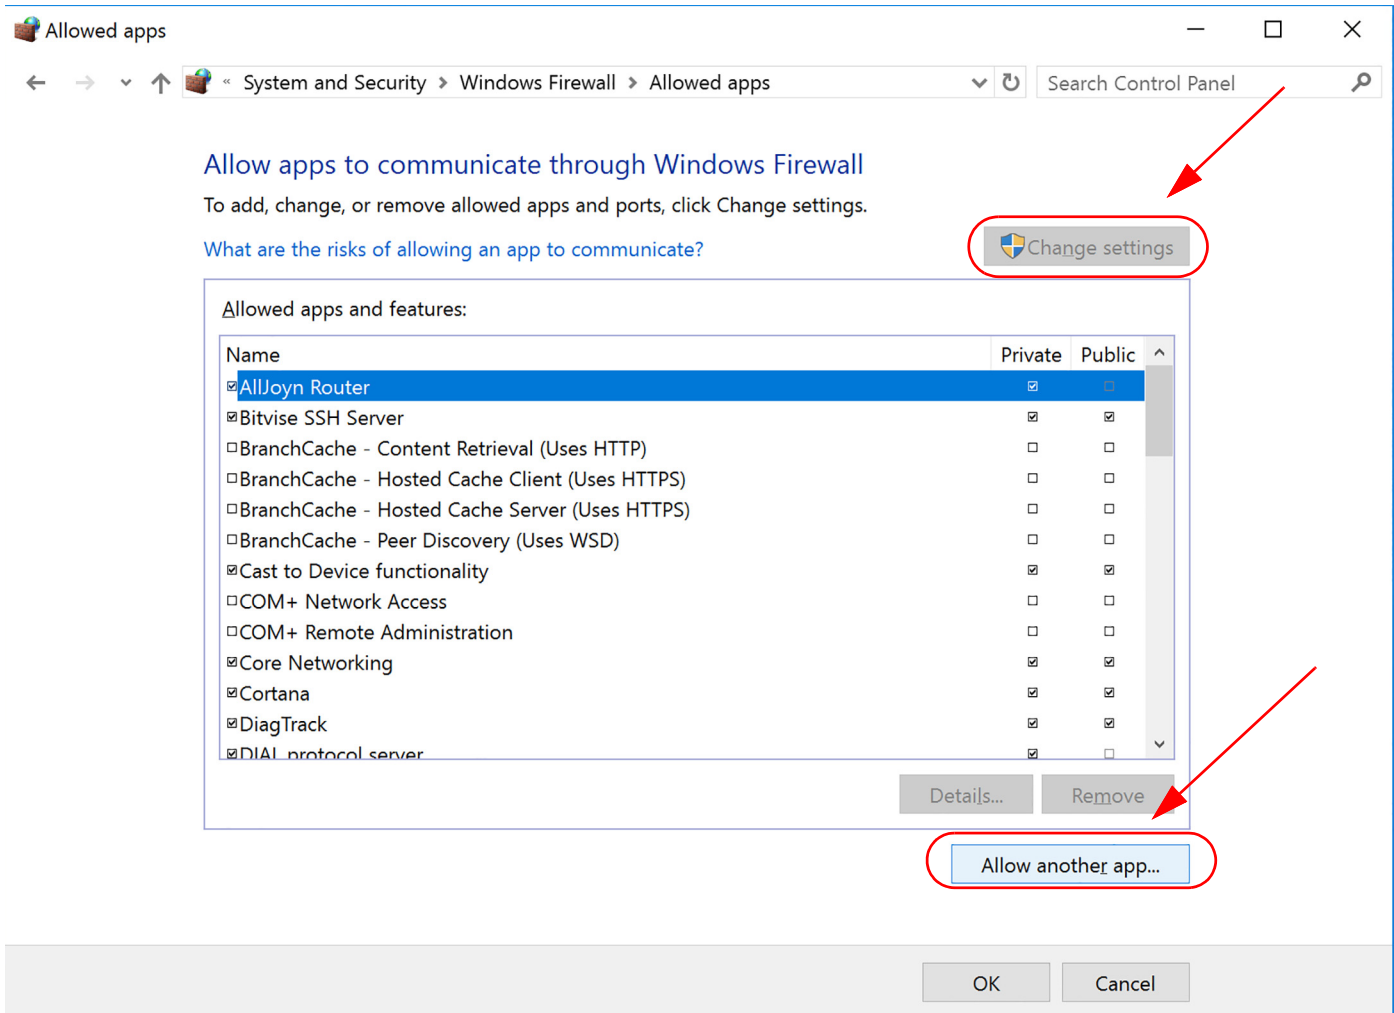

Figure 2.4: Windows Server 2016/2019: Change Settings -> Allowed Another app
- From the Windows Firewall screen -> Allow apps to communicate through Windows Firewall, select "Change settings", then select "Allow another program". See Figure 2.4.